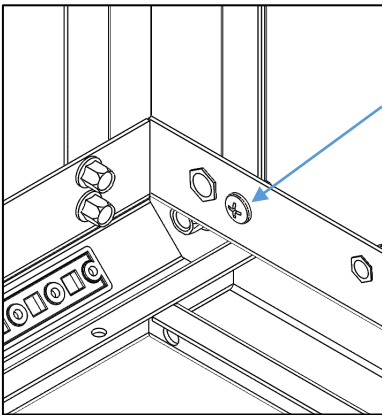

Figure 5
Tighten M5x15 YSB screws (B) as shown on the **Figure 5**